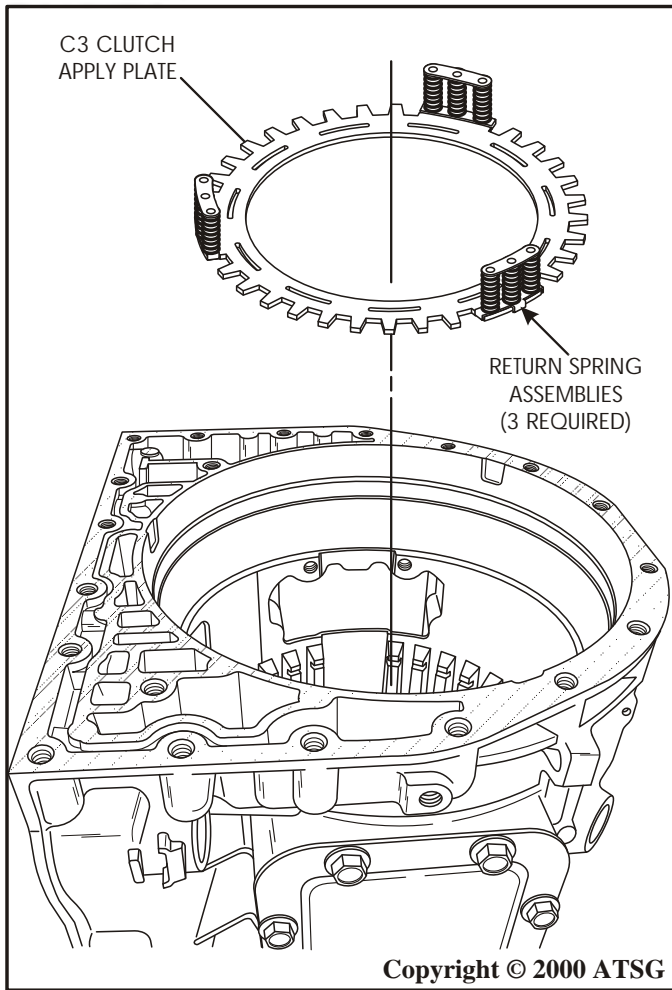

Figure 72
59. Remove the C3 clutch apply plate with the 3 return spring assemblies on it from the case, as shown in Figure 72.
Note: *These three return spring assemblies just clip onto apply plate (See Figure 72).*